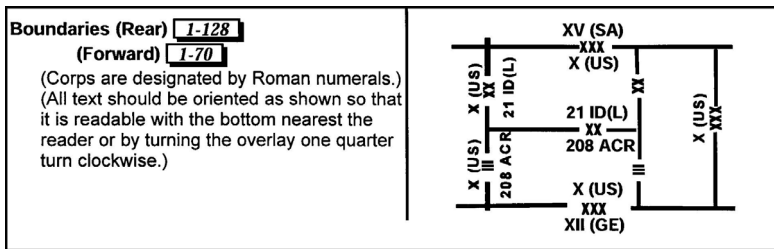

Figure 071-332-5000-1. Rear boundary
(1) Boundaries show the areas of tactical responsibility. In the offense, these are called zones of action. In the defense and retrograde, they are called sectors of responsibility. When you describe them verbally, describe their lateral boundaries from rear to front in the offense, and from front to rear in the defense and retrograde.
(2) Use rear boundaries when you must precisely define the area of responsibility for forward units. When no rear boundary is delineated, determine the rear limit of a unit's area of responsibility by visualizing a rear boundary, drawn generally parallel to the front, along a natural terrain feature, and connecting at the rearward limit of the unit's lateral boundaries.
(3) Mark the rear boundary as shown. Ensure that the size shown along the boundary corresponds to the low unit. Show the arm or branch as needed to prevent confusion (figure 071-332-5000-1).